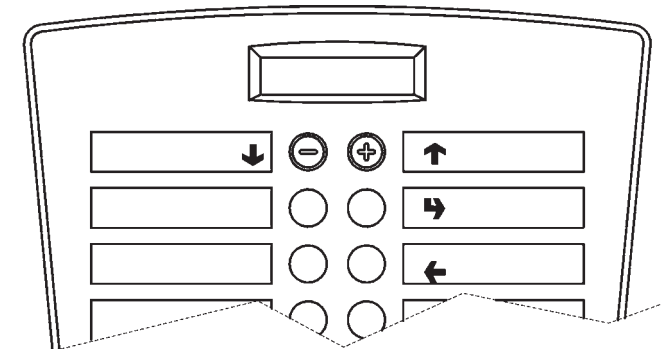

Fig. 23
- External direct selection push-button panel which takes on the following functions when in “Filler” and “Technician” mode (see Fig. 23):